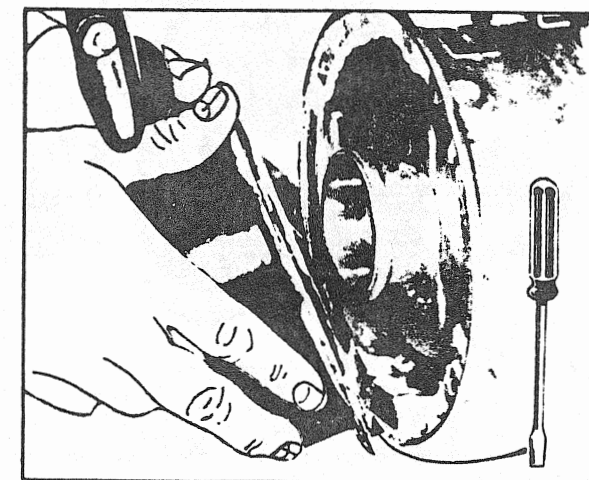

FIGURE 9
- Unscrew the four (4) hexagonal screws on rewind starter/magneto housing.
- Pry the rewind starter housing and remove it from magneto housing (fig. 9).